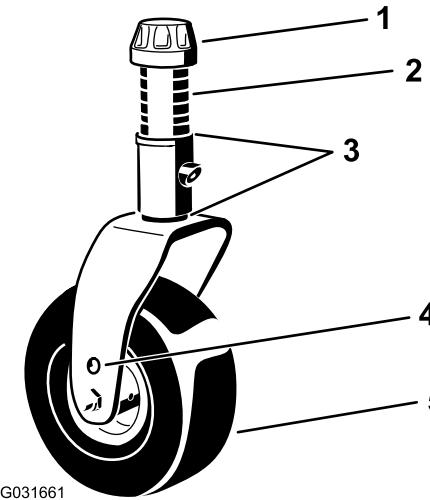

Figure 17
4. Using the supplied caster-cap wrench, loosen the tensioning cap and remove it from the caster-spindle shaft and slide the caster shaft out of the caster arm (Figure 17).
7. Install the shims (as originally installed) and the remaining spacers onto the shaft (Figure 17).
8. Install the tensioning cap and tighten it with the supplied caster-cap wrench to secure the assembly (Figure 17).